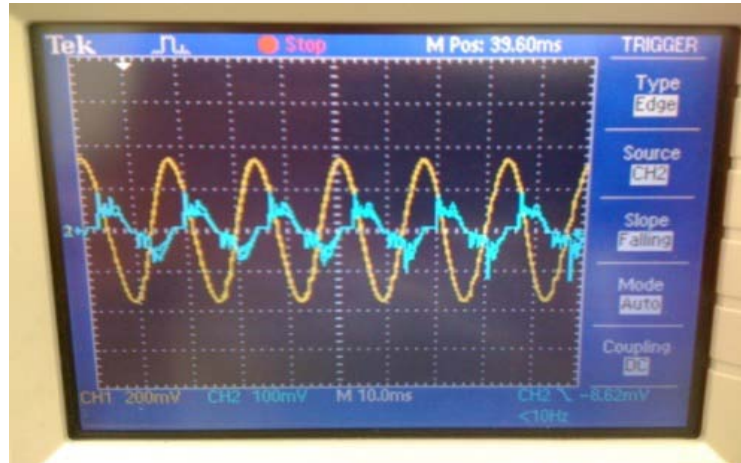
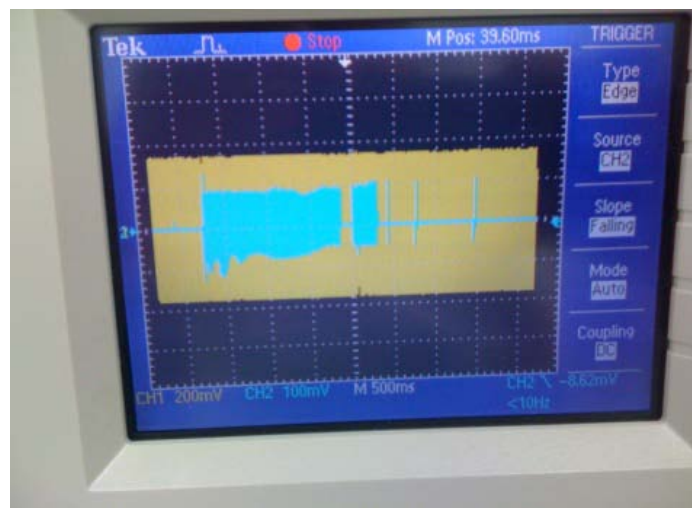

Fig. 2 Screen shot of the initial 100 milliseconds of recharging of 250 Watt Sec strobe/ flash unit showing pulsing current with very high initial peaks
Fig. 3 Screen shot for 5 Sec to show complete recharging of 250 Watt Sec strobe / flash unit
(one pulse every $\frac{1}{2}$ cycle of the 60 Hz sine wave). The peak value of the current pulses is extremely high in the first 100 milliseconds and tapers off to almost zero in around 2 to 3 seconds after the capacitors are fully charged (Please see Fig. 3 below). **Hence, during the initial 100 milliseconds or so, the RMS power drawn for charging the capacitors can reach approximately 4 times the Watt Sec rating of the strobe / flash (Please the explanation under Fig. 2 below).**
- 10 milliseconds for screen shot of initial 100 milliseconds shown in Fig. 2 below
- 500 milliseconds for screen shot of 5 sec shown at Fig. 3 below